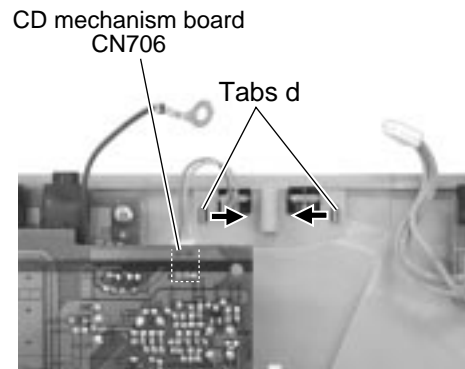

Fig.36
■Removing the LED board (See Fig.36 and 37)